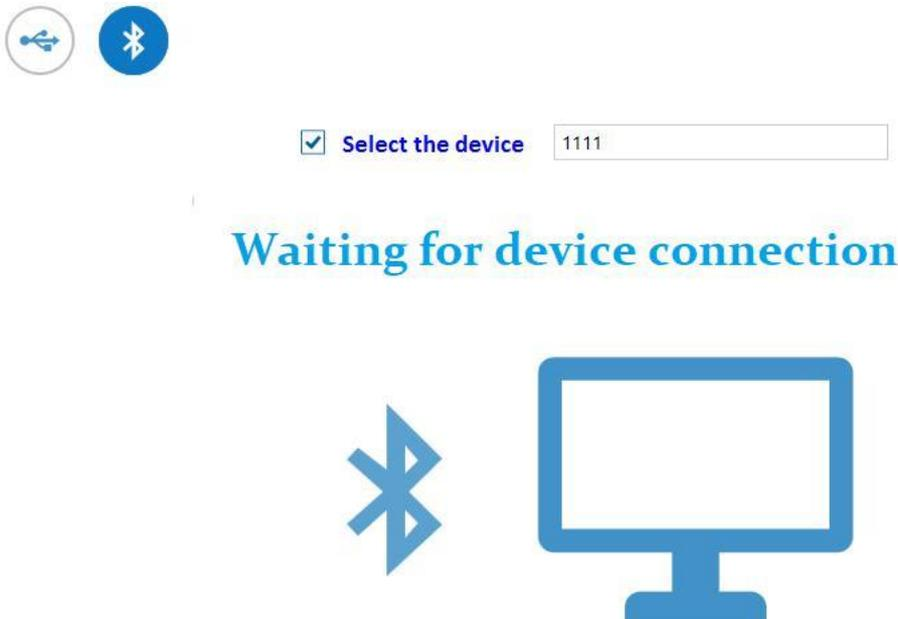

Figure 5 - ADM Configurator in device connection standby mode
- 5) If there are several active ADM007 BLE trackers within the reach of the Bluetooth adapter of the personal computer, select the "Select device" flag and enter the last 4 digits of IMEI in accordance with Figure 5. If there is only one active ADM007 BLE tracker within the reach of the Bluetooth adapter of the personal computer, you may remove the "Select device" flag. In this case, a random tracker will be connected from all detected;